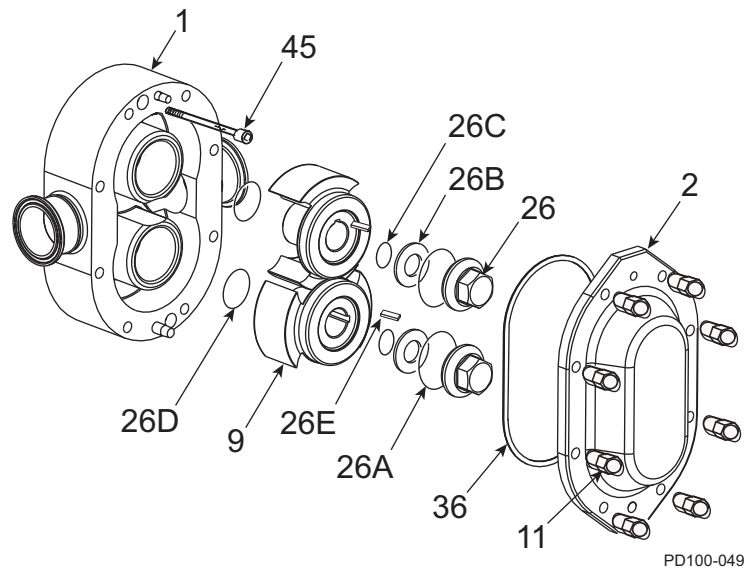

Figure 32 - Exploded View of Fluid Head
1. Remove the cover nuts (Figure 32, item 11) from the cover (item 2). Using a soft hammer, tap the cover (item 2) off the body studs and dowel pins.